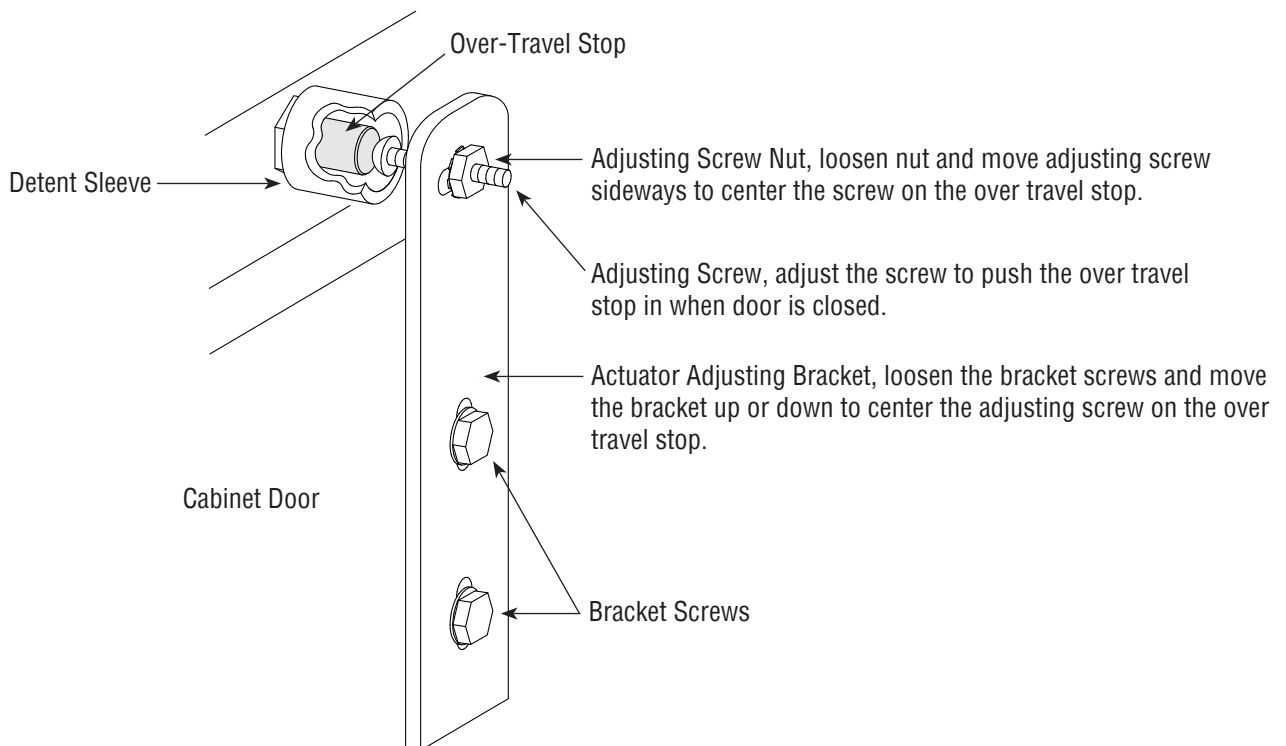

**FIGURE 6**
#### **4.4 | Door Interlocks – Figure 6**
**6.5.4 |** Peel a short section of adhesive backing from the 5/16"-thick strip gasket and adhere the gasket to the center of the top edge of the window opening, as shown in Figure 6. Peel additional backing as needed and work the strip around the radius of each corner, pressing it firmly to bond. Trim the gasket to fit and compress the ends to seal.